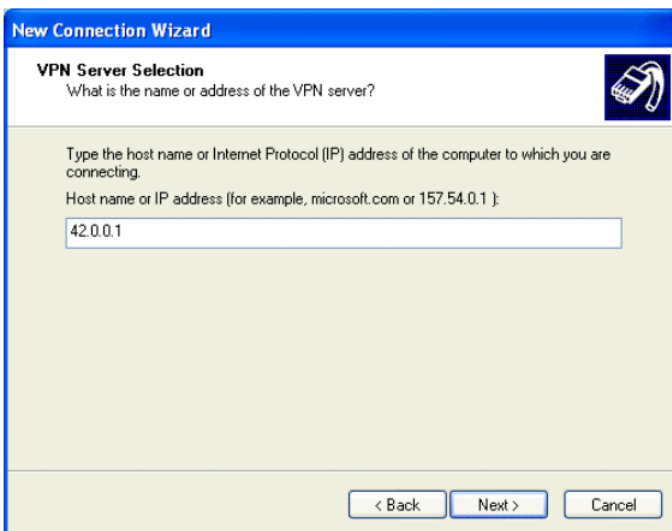

Figure 2-15. New Connection Wizard, VPN Server Selection
Step 8. You should now be at the VPN Server Selection window (see Figure 2-15). Enter 42.0.0.1 in the **Host name or IP address** text box and then click **Next>**.